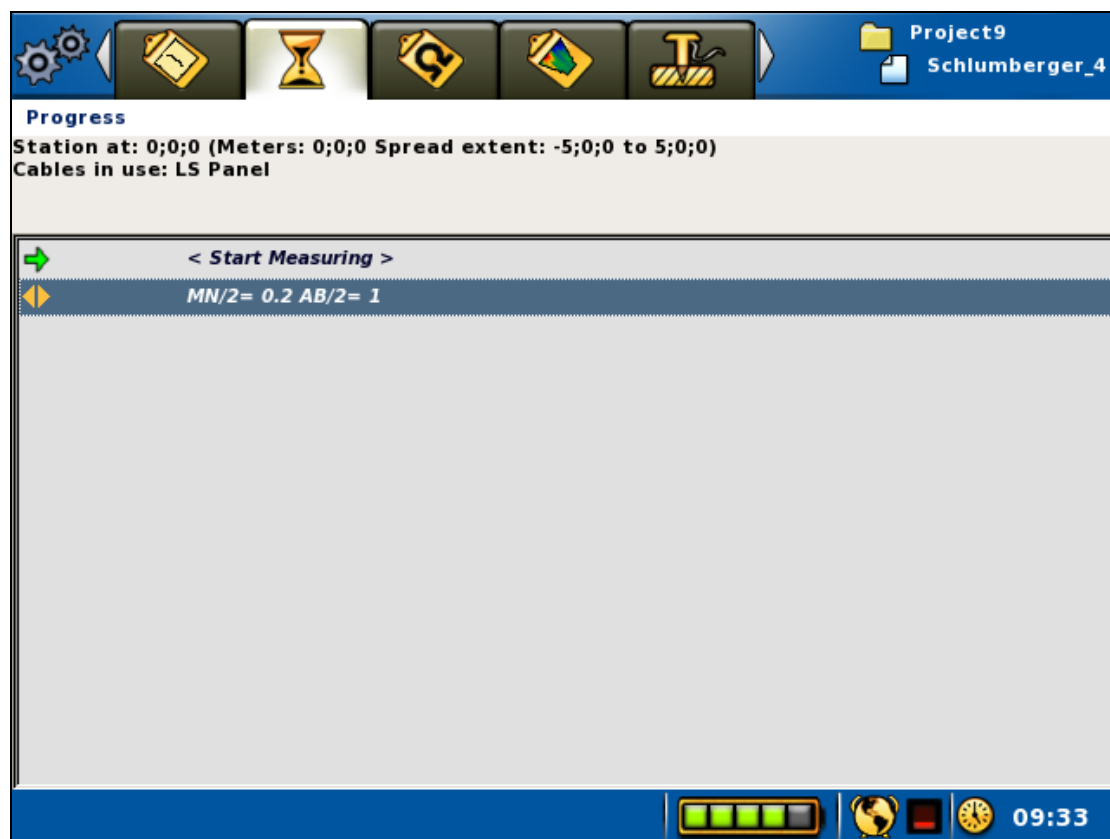

Figure 63. The Progress view in VES mode
- The “*Measure/Progress*” View (Figure 63) will be used to start and stop measurements as usual. The active electrode position, that is the electrode position to be measured, can also be set from this *View*.
In VES mode a line with a “MN/2 and AB/2” electrode position will be shown on the *Progress View* (Figure 63). This is the active electrode position.
The *Electrode Positions View* (Figure 64) lists all the electrode positions from the protocol file. The dark yellow arrow is placed on the line that corresponds to the active electrode position. This electrode position is the one that is shown on the second row of the *Progress View* (Figure 63). The *Electrode Positions View* will be empty when the instrument is not in VES mode.